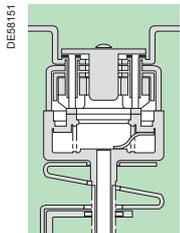

Fig. 1
- at the beginning of an opening cycle, the main contacts and the arcing contacts are closed (fig. 1).